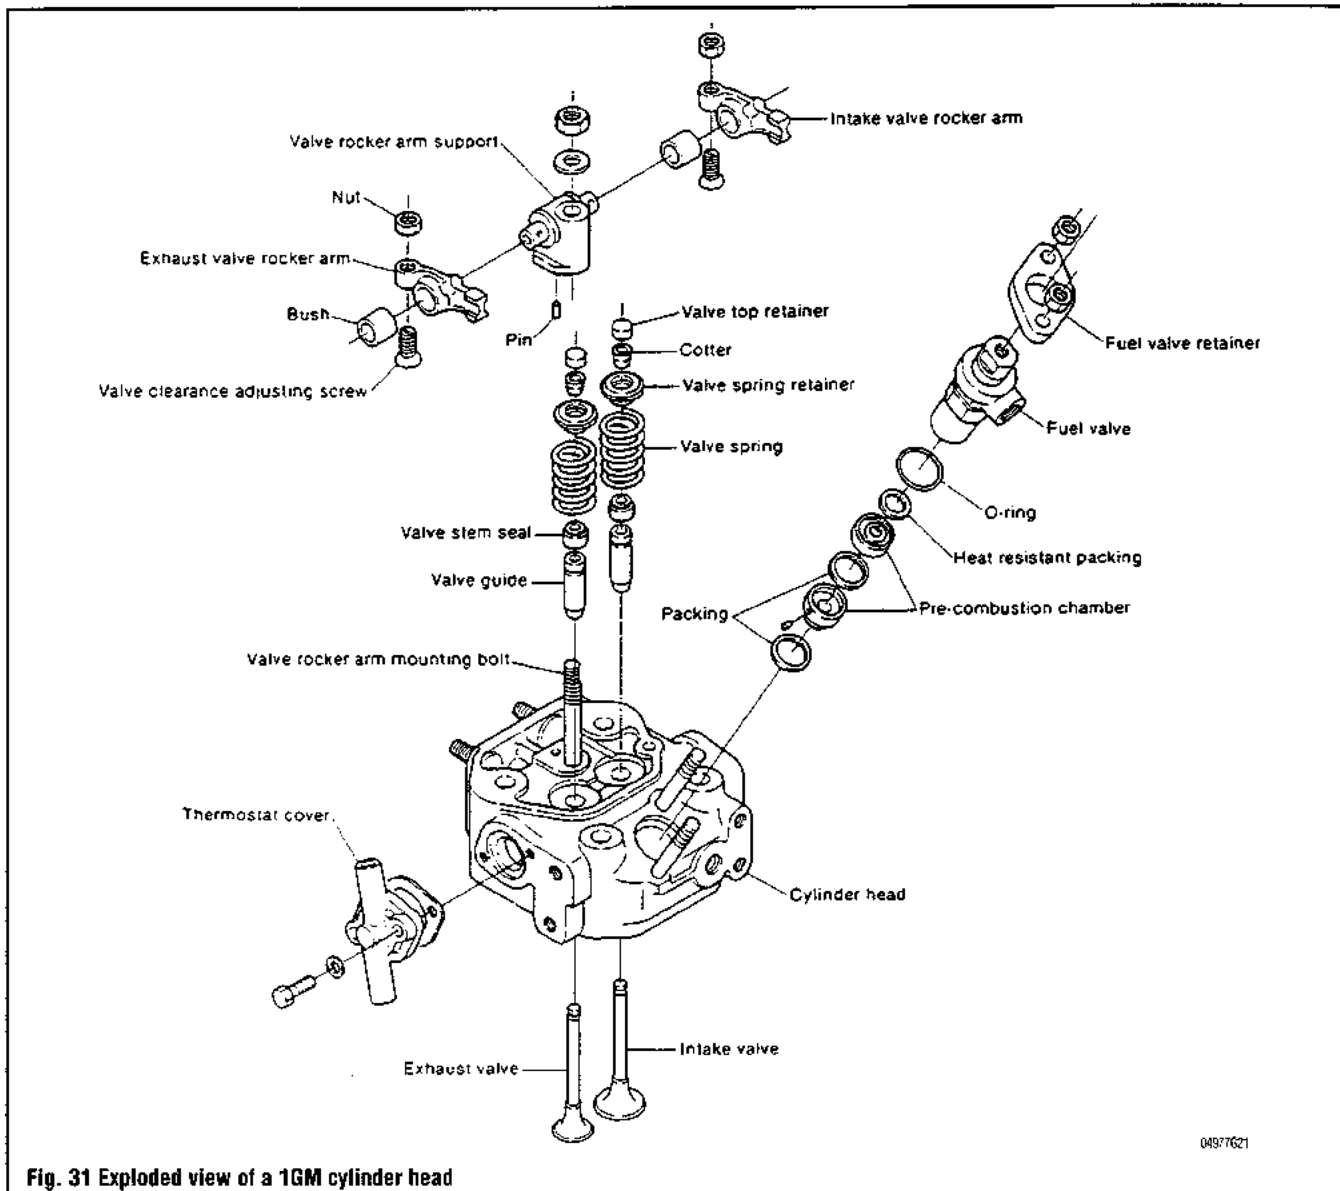

Fig. 31 Exploded view of a 1GM cylinder head
▶ See Figures 31, 32, 33, 34 and 35